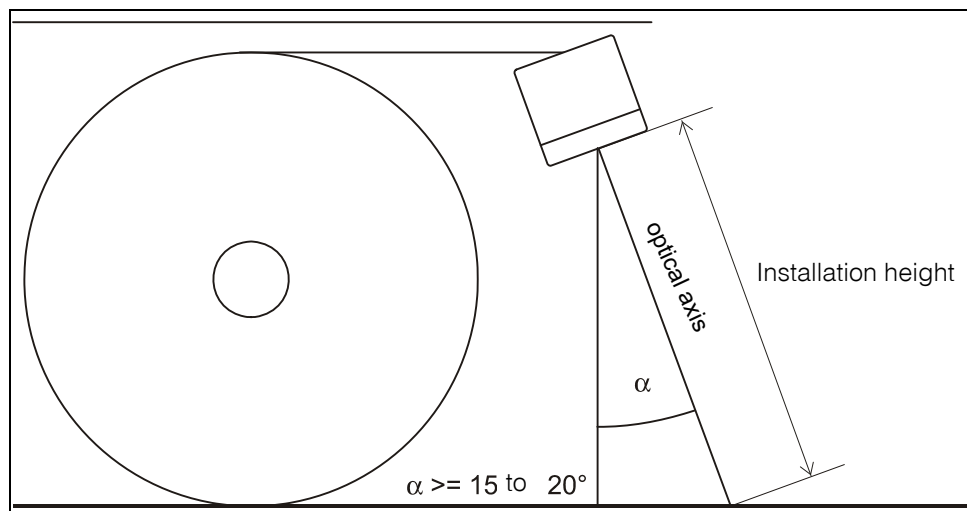

Figure 1 Recommended inclination of the camera on reflective grounds
- Move the marker on the display (parameter `Startline` within menu `Image Settings`, refer to section 4.3 on page 22) to a section of the picture without reflections caused by the lighting of the camera or change the inclination of the camera (refer to Figure 1 on page 6).